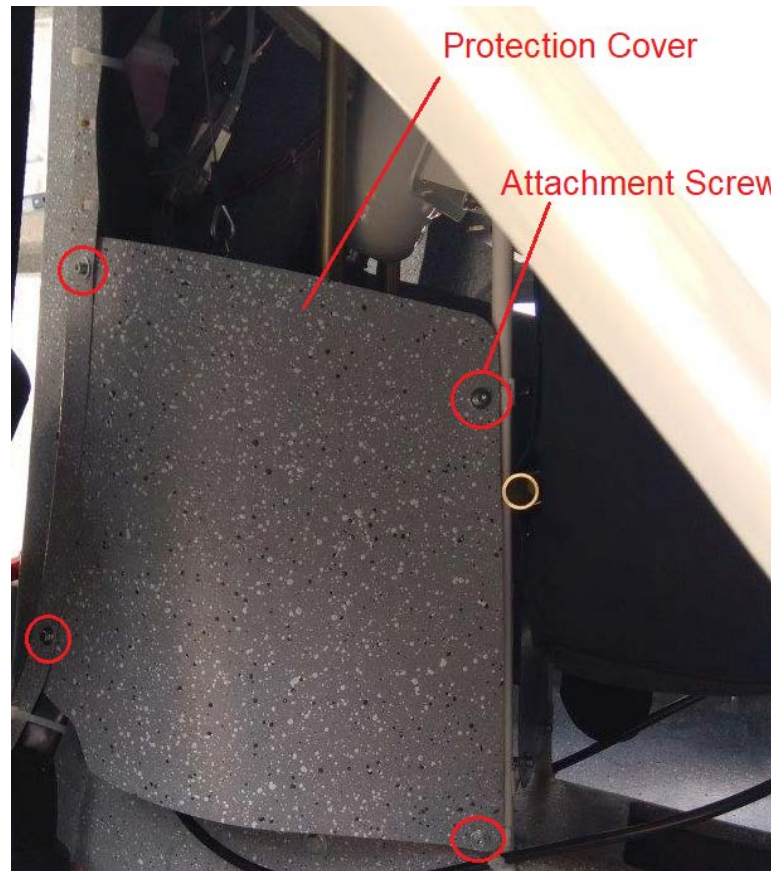

Fig. 2
- Remove protection cover of control system by unscrewing attachment screws M4, marked by red circles on Fig. 2.
- **Note:** On Fig.2 shown installation of protection cover on CTSL plane. Installations of protection cover on CTLS are very similar.